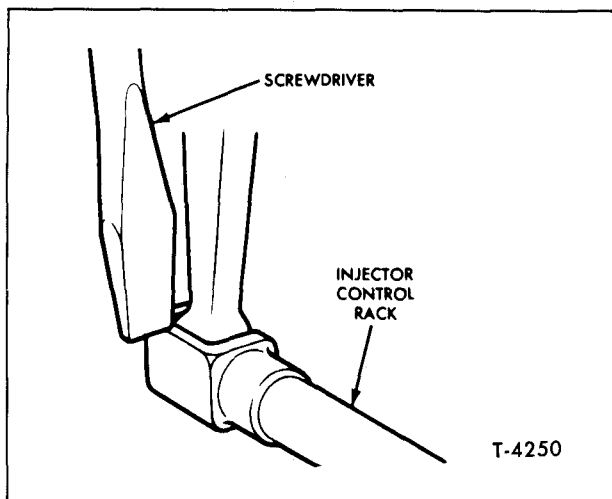

Figure 7—Checking Injector Rack Spring
- (1) Hold the speed control lever in the maximum speed position, and press down on the injector rack with a screwdriver or finger-tip causing the rack to rotate (fig. 7).
- (2) The setting is sufficiently tight if the rack returns to its original position. If the rack does not return to its original position, it is too loose. To correct this condition, back off the outer adjusting screw slightly and tighten the inner adjusting screw.
- (3) The setting is too tight if, when moving the speed control lever from the idle to the maximum speed position, the injector rack becomes tight before the speed control lever reaches the end of its travel (stop under the governor cover). This will result in a slight step-up in effort required to move the speed control lever to its maximum speed position and a deflection in the fuel rod (fuel rod deflection can be seen at the bend). If the rack is too tight, back off the inner adjusting screw slightly and tighten the outer adjusting screw.